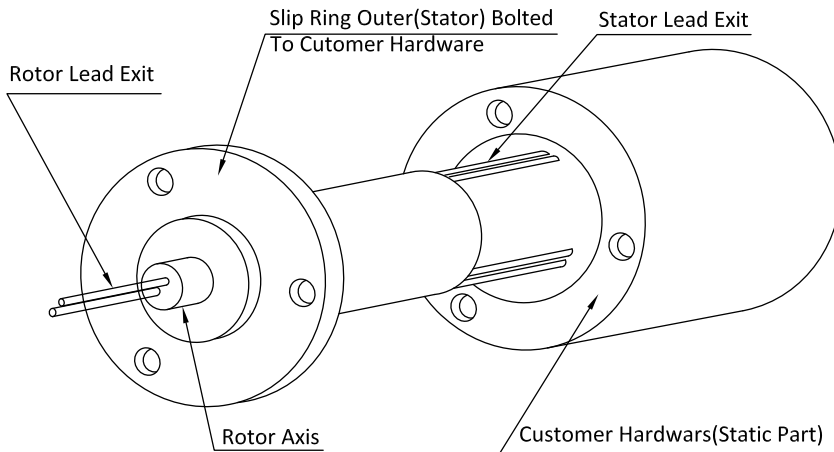

Figure 1
1. Flanged slip rings are designed to be mounted with screws and washers as shown in Figure 1. The washers protect the flange against excessive forces. If lock washers are used, flat washers should be mounted between the lock washer and the flange.